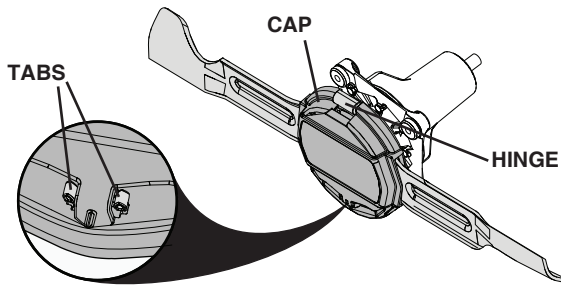

Fig. 29
BLADE REPLACEMENT (See Figs. 29 - 34)
- Squeeze tabs inward to release cap. Remove by lifting cap from hinge and set aside. (See Fig. 29.)